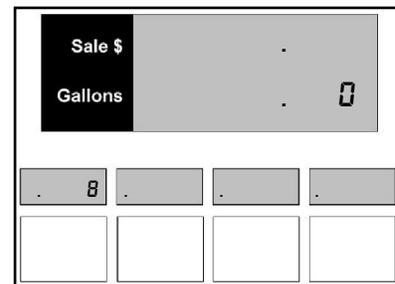

Figure 8.2 – New Decimal Value
- Press the **Enter** button. The new decimal placement appears in the displays as shown in Figure 8.2.